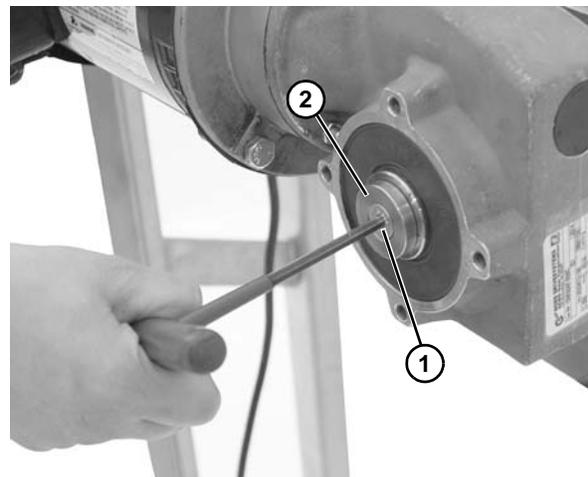

Figure 42
- Remove flat head screw (Figure 42, item 1) and clamp washer (Figure 42, item 2) from the drive shaft.